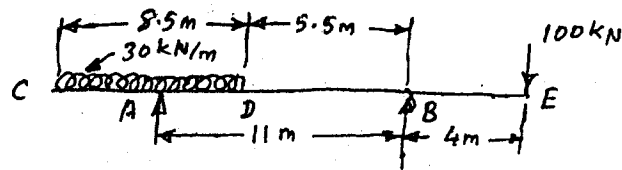

Fig.Q5
- 5 Draw the bending moment and shear force diagrams for the beam loaded as shown in fig. Q5. (20 Marks)